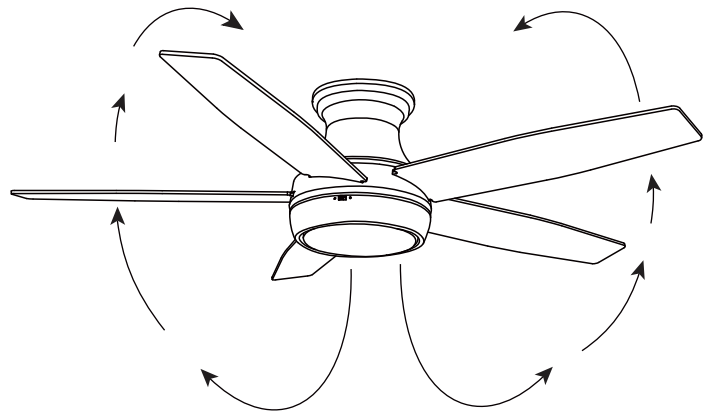

Figure 13
* Warm weather - (Forward) A downward air flow creates a cooling effect as shown in Figure 13. This allows you to set your air conditioner on a higher setting without affecting your comfort.